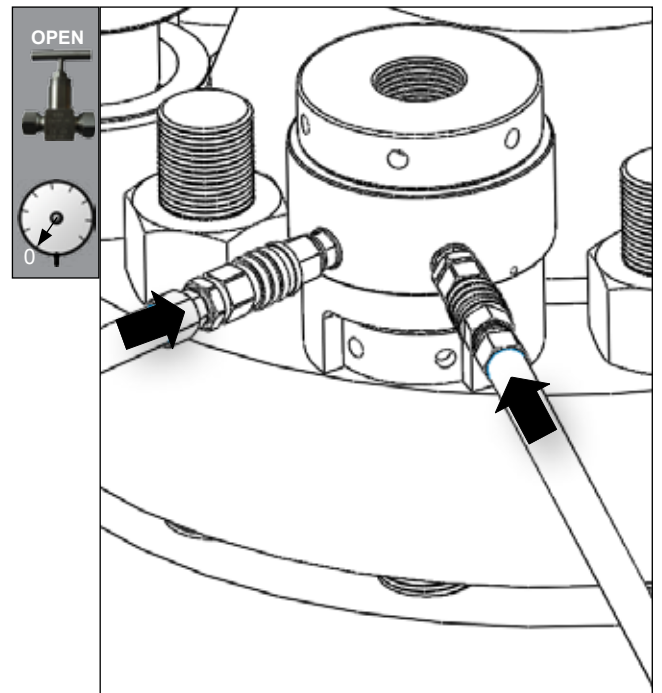

Fig 6.4
3. Using link hoses connect the tensioners together and to a suitable pump unit. Refer to section 5.1 for configuration illustrations and fig 6.4 for link hose connection instructions. Before connecting a link hose to the pump unit make sure the pump is turned off and the pressure release valve is in the open position.
3. Using link hoses connect the tensioners together and to a suitable pump unit. Refer to section 5.2 for configuration illustrations and fig 6.4 for link hose connection instructions. Before connecting a link hose to the pump unit make sure the pump is turned off and the pressure release valve is in the open position.